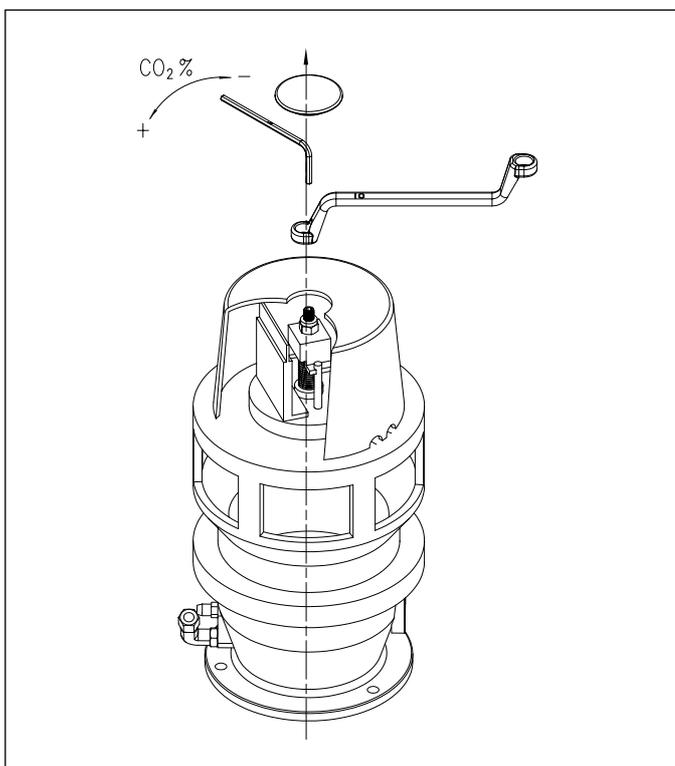

Fig. 24 Adjustment point CO2% / O2% IMS-system
- 16f. Check CO2-percentage (O2-percentage) against the table. Adjust if necessary using the adjustment screw on the IMS-system (see Fig. 24). Is the CO2-percentage too high (O2-percentage too low), turn the adjustment screw to the right, simultaneously holding the nut with a ringwrench. Is the CO2-percentage too low (O2-percentage too high), turn the screw to the left. Check the flame via the inspection window. The flame should be stable, mainly blue with burner surface covered by orange dots.